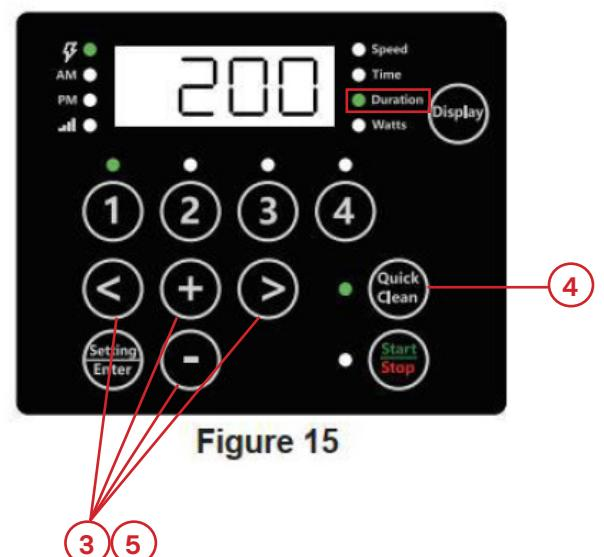

Figure 15
- 4) Press Quick Clean. The Quick Clean duration will display. The "Duration" parameter LED will blink while editing. **See Figure 15.**